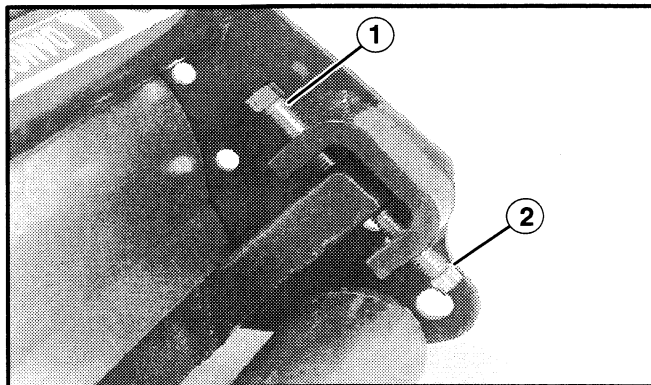

Figure 14
1. Loosen the **lower** adjustment screws at each end by turning them approximately 1/4 turn counterclockwise (See Figure 14).